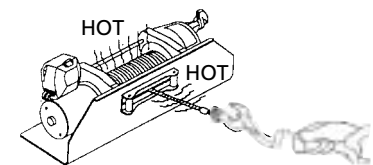

Figure 6
**⚠ DANGER** *The drum and wire rope may get very hot (Figure 6).*